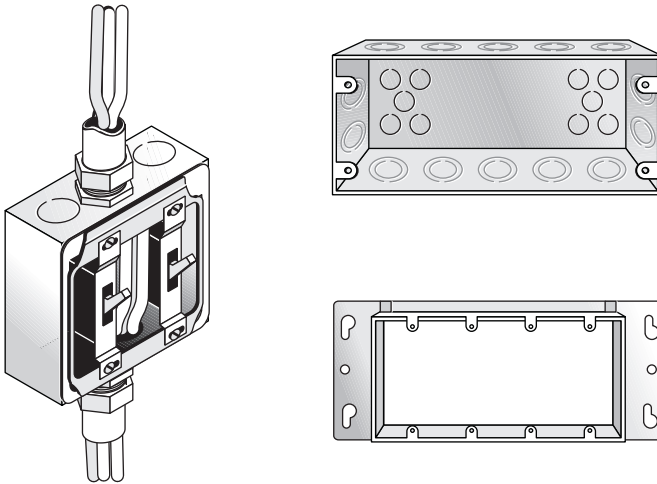

Fig. 10-5 A square box with two switches, and a four-gang box and cover for it.
8. For each device strap (see left-hand side of Fig. 10-5 for examples of two such straps), a double allowance based on the largest conductor terminating on the strap. If the device is so large that it would not physically fit into a single-gang metal device box listed in Table 314.16(A) (e.g., the 3-pole 4-wire grounding receptacles for modern ranges and clothes dryers shown in Fig. 20-7), a new rule has applied since the 2008 *NEC*: The double allowance applies for each gang physically required, resulting in four allowances for the NEMA 14-50R and 14-30R receptacles just discussed. Some device manufacturers have come out with versions of these larger receptacles that, although they have the identical configuration, are physically small enough to mount in a single-gang device box, although such a box would not have the wiring volume to accommodate the likely conductor fill. Use of these devices would bring the required number of allowances back to the normally required number of two.